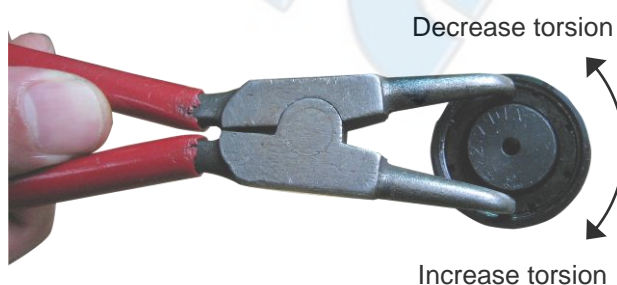

Figure 8-2
- (3) Rotate notched nut clockwise to increase torsion, counterclockwise to decrease torsion (see Figure 8-2).
- (4) Replace spring clip into groove of the tap holder.